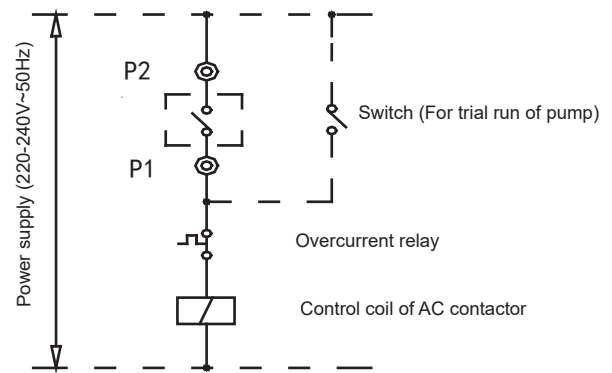

Fig.5-3
- Step 11. Connection of control wires of pump: the control wires of AC contactor of pump must pass the connection terminals p1 and P2 of the main unit, as shown in Fig. 5-3.